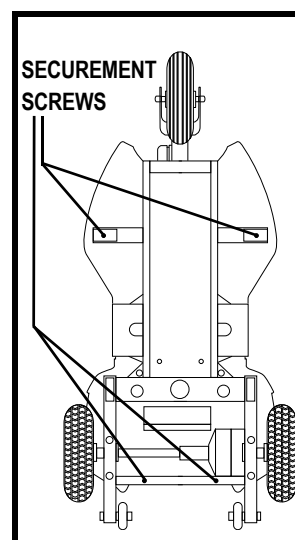

Figure 16. Shroud Securement Screws
4. Position the Travel Scooter in a way that allows access to the underside of the Travel Scooter and remove the four (4) screws that secure the plastic shroud to the frame. See **figure 16**.